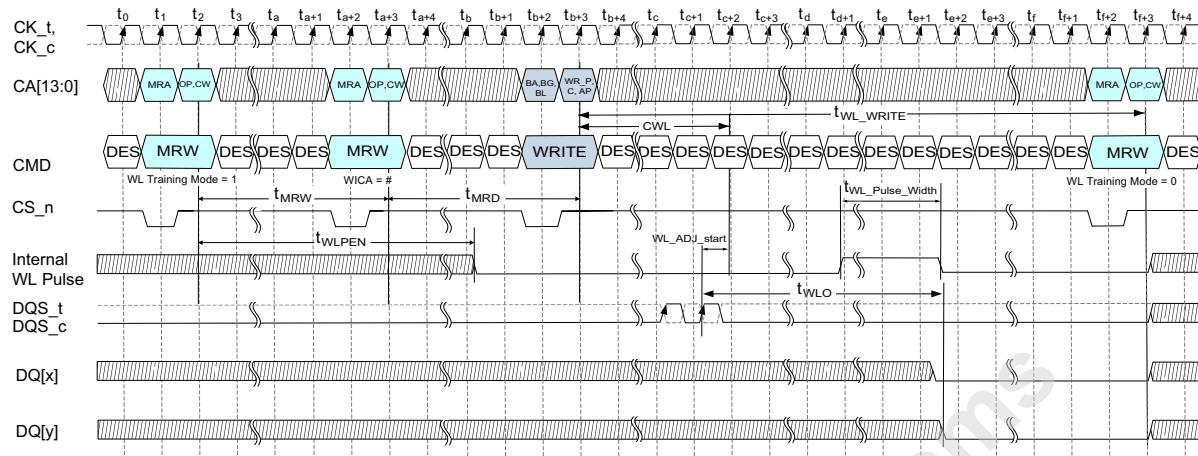

Figure 106 — Write Leveling Training Mode Timing Diagram
**Figure 105** and **Figure 106** timing diagrams demonstrate Write Leveling Training operation when Internal Write Timings are enabled and the Internal Cycle Alignment is set such that the Internal Write Leveling Pulse has not yet reached the host DQS toggles.